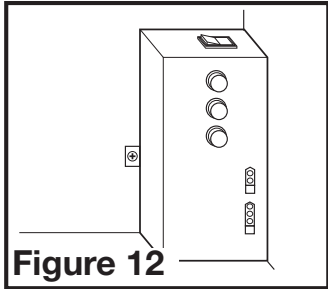

Figure 12
- 3b. **HUMIDITY SENSING MODELS:** Plug the fan's 2 pin and 3 pin quick connect motor cords into the corresponding receptacle located on the wire compartment cover. These cords will only fit one way into the receptacles (**Figure 12**).